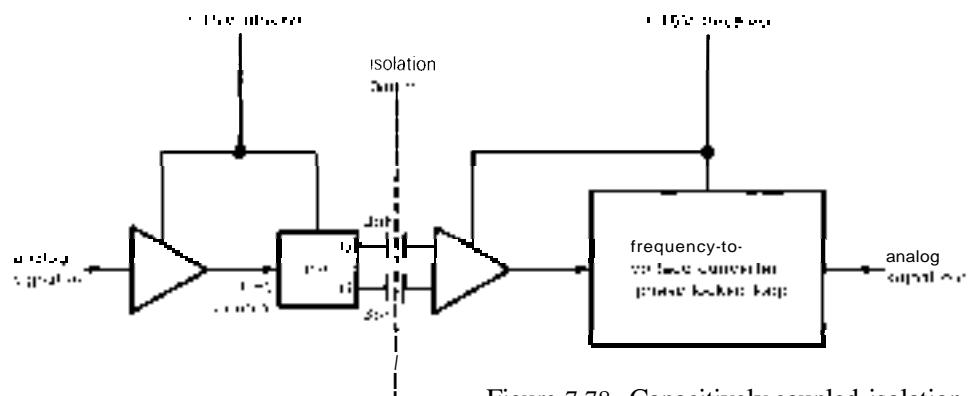
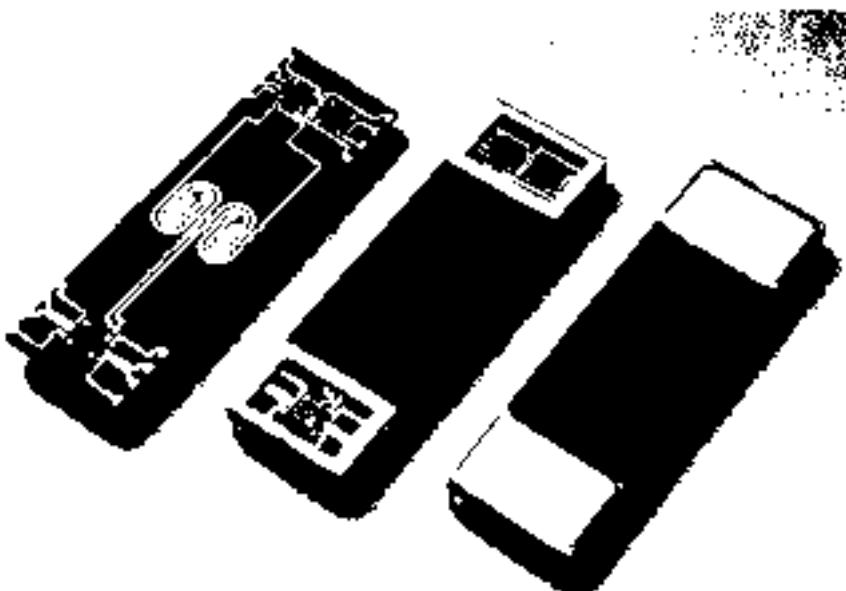

Figure 7.78. Capacitively coupled isolation amplifier.
Figure 7.79. Burr-Brown IS0106 isolation amplifier. (Courtesy of Burr-Brown Corporation.)
**3.** Capacitively coupled isolation of a high-frequency carrier signal, which is frequency-modulated with the signal to be isolated (Fig. 7.78). This technique is typified by the ISO102, ISO106, and IS0122 from Burr-Brown (Fig. 7.79). There is no feedback, as with transformer isolation, but for most models you need power supplies at both ends. This usually isn't a problem, since you are likely to have electronics at both ends, generating and using the signal. If not, you can get an isolated